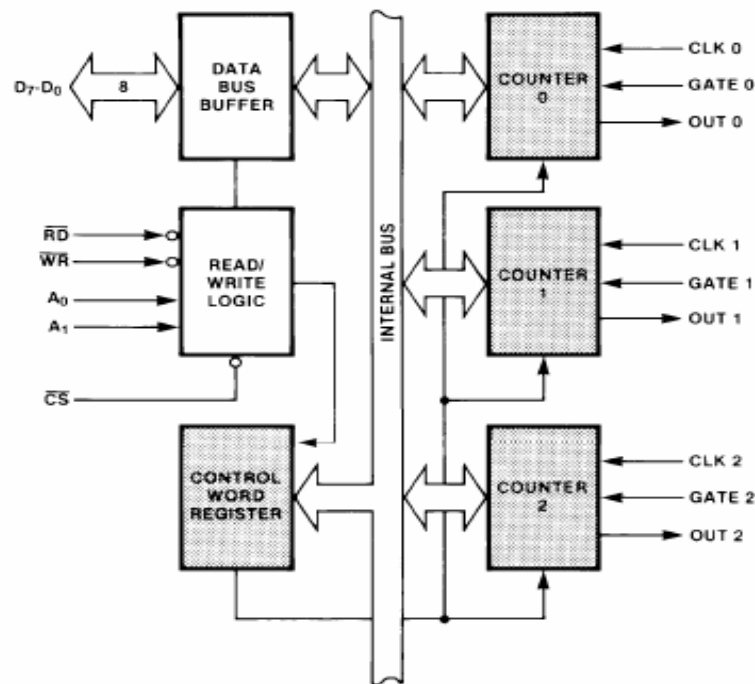

Figure 4. Block Diagram Showing Control Word Register and Counter Functions
- **CONTROL WORD REGISTER :** The Control Word Register (see Figure 4) is selected by the Read/Write Logic when A₁,A₀ = 11. If the CPU then does a write operation to the 8254, the data is stored in the Control Word Register and is interpreted as a Control Word used to define the operation of the Counters.